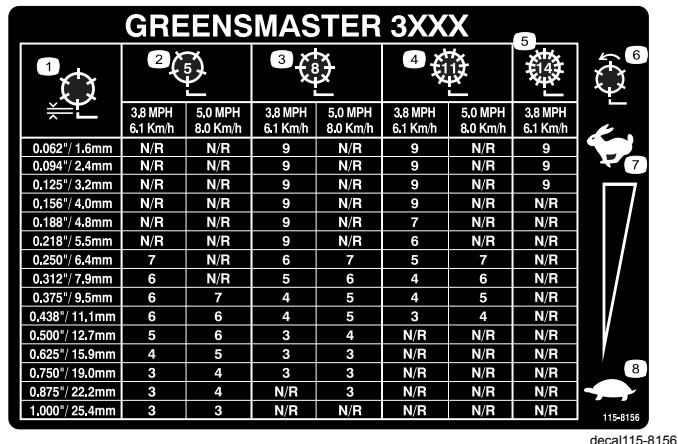

Figure 28
3. Using the appropriate graph (See Figure 28) for 5-, 8-, 11- or 14-blade cutting units, determine the proper reel speed setting.